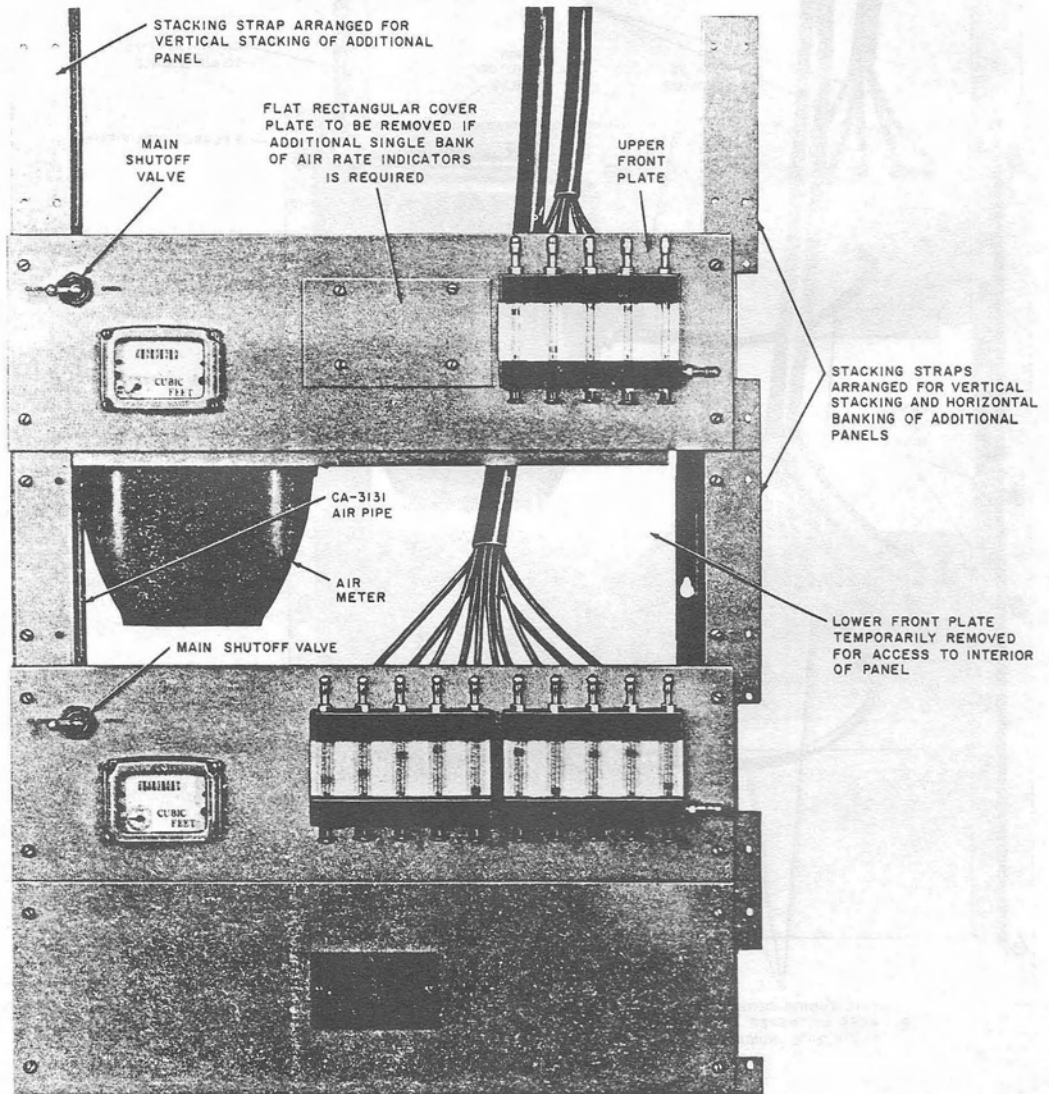

Fig. 2—Front View of Stacked B Meter-Panels
2.05 Panels may be stacked vertically and/or banked horizontally to best utilize the available space in the CO. Adjoining meter-panels are structurally connected with stacking straps, as shown in Fig. 2. Where the panels are stacked
vertically, as illustrated in Fig. 2 and 3, removal of the lower front cover plate provides ample access for connecting or disconnecting plastic tubing from the next lower panel.